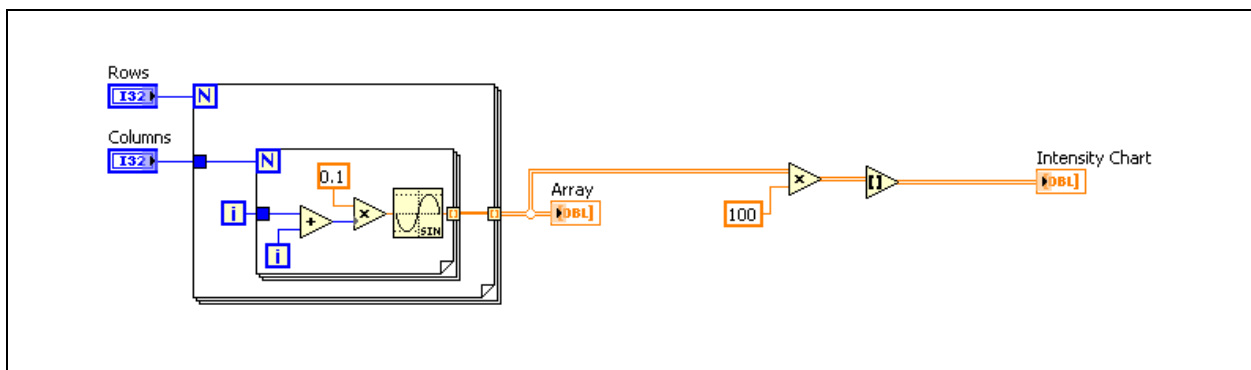

Figure 4-12. Array Investigation Part 2 VI Block Diagram
5. Right-click the remaining For Loop and select **Remove For Loop** from the shortcut menu. Your block diagram should resemble the one shown in Figure 4-12.